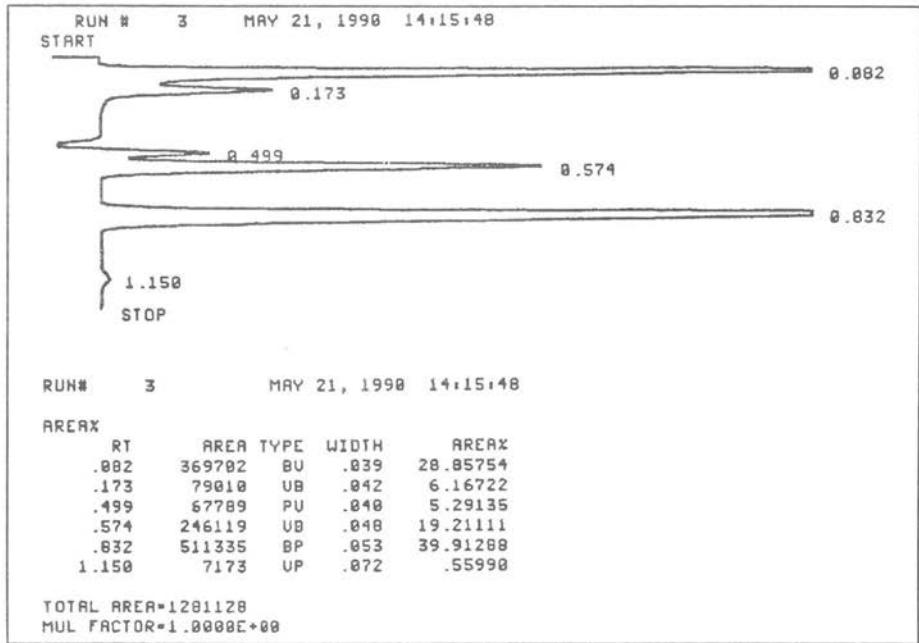

Figure 7-6. Example of Demo Chromatogram Test T
- (A) **Run All Tests**—Selecting test A will cause all the above tests to run consecutively.
- (T) **Enable Demo Chromatogram**—Selecting this test enables the demo chromatogram. The demo chromatogram is internally stored signal data that can be used to verify performance and as a training tool in conjunction with the tutorial manual. Running the demo chromatogram and obtaining positive results verifies every subsystem in the unit, except the A/D. Figure 7-6 is an example of a demo chromatogram on a good unit.
4. Press the [STOP] key to end the chromatogram after the peak marked with a retention time of 1.150 has been plotted. The demo chromatogram should resemble figure 7-6.